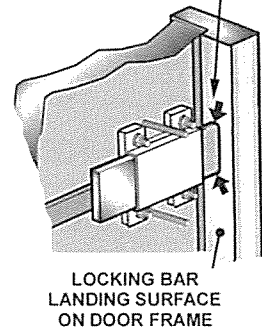

FIGURE 8
9. With door closed, activate the Locking Bars so that they are touching on the dor frame. Mark position of locking bars on frame. (Fig. 8)